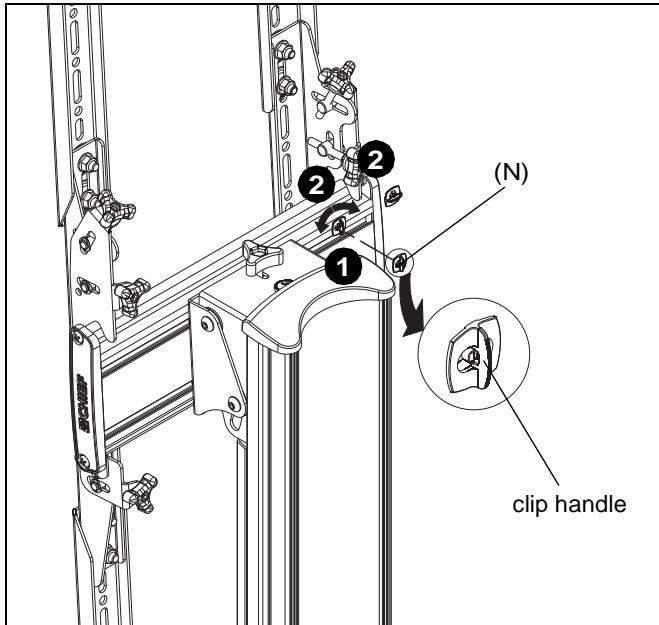

**Figure 6**
**IMPORTANT ! :** In order to ensure an even mount, install uprights to be centered over column assembly. Do NOT install both uprights to the same side of column assembly! (See Figure 6)